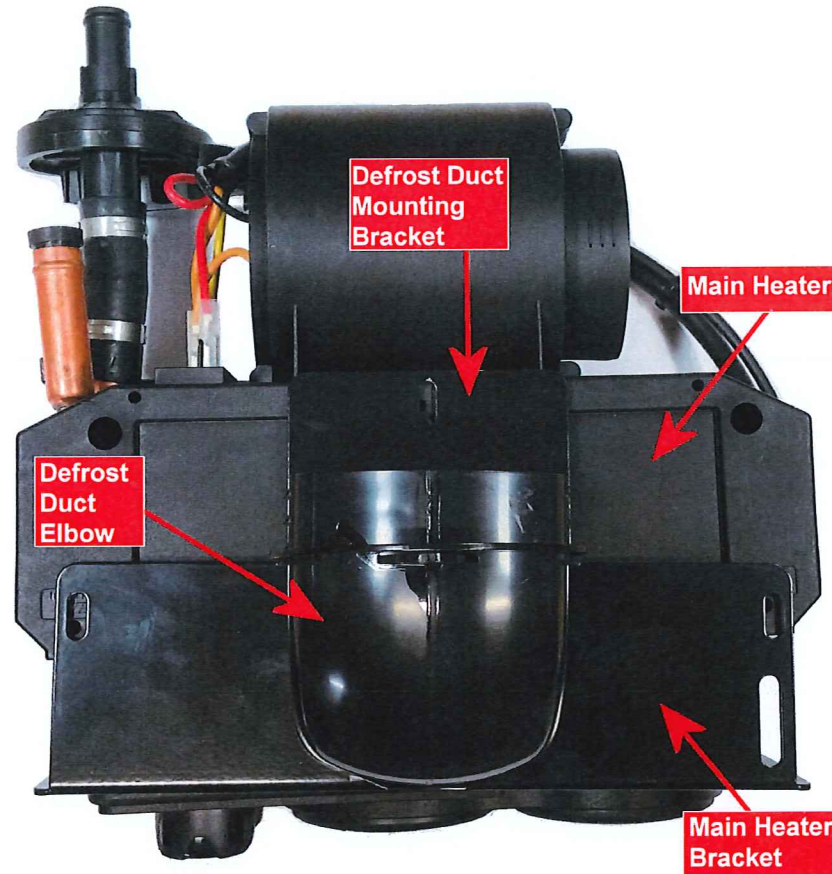

Figure 2
13. Drill the two (2) 3" holes using the supplied 3" Hole Saw and Pilot Bit, as stated on Templates 2 & 3.
16. Using a supplied Plastic Mounting Screw, attach the Defrost Duct Mounting Bracket to the Main Heater Mounting Bracket. The oval hole in the defrost duct bracket should fit over the duct elbow and rest flush with the plastic flanges as shown in Figure 2.